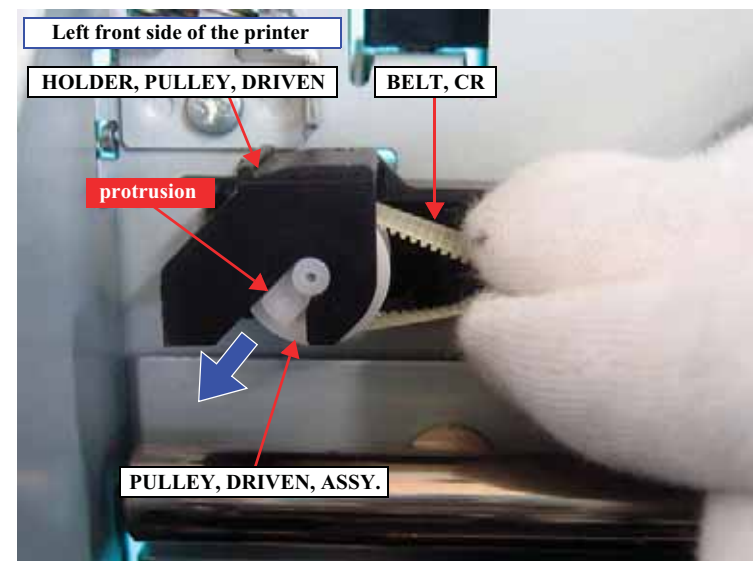

Figure 4-107. Removing the PULLEY, DRIVEN, ASSY.
10. Push the PULLEY, DRIVEN, ASSY. in the direction of the arrow, and remove the PULLEY, DRIVEN, ASSY. and the BELT, CR from the HOLDER, PULLEY, DRIVEN. See Figure 4-107.
Be sure to install the PULLEY, DRIVEN, ASSY. to the HOLDER, PULLEY, DRIVEN so that the protrusion of the PULLEY, DRIVEN, ASSY. is seen as shown in Figure 4-107.